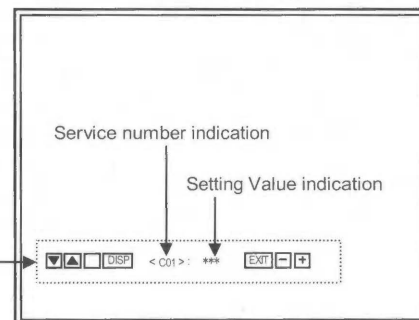

Fig. 15
- ① Press the **CONTRAST** key from the <BLOCK SELECT> screen.
- ② Then screen displays the CONTROL BLOCK adjustment screen (Fig. 15).
- ③ The select item is shown by the SERVICE Number at the lower of the screen.
- ④ Key control operation are displays as same as the screen lower. The key operations of this mode are following as shown below.